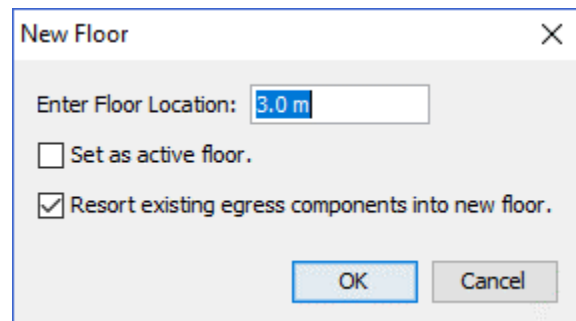

Figure 21. Floor Location Z plane
2. Enter the Z plane location (Figure 21) or click on a snap point in the 3D or 2D view and click okay. This Z plane will be used to update the drawing tools' working Z location when this floor is made active.